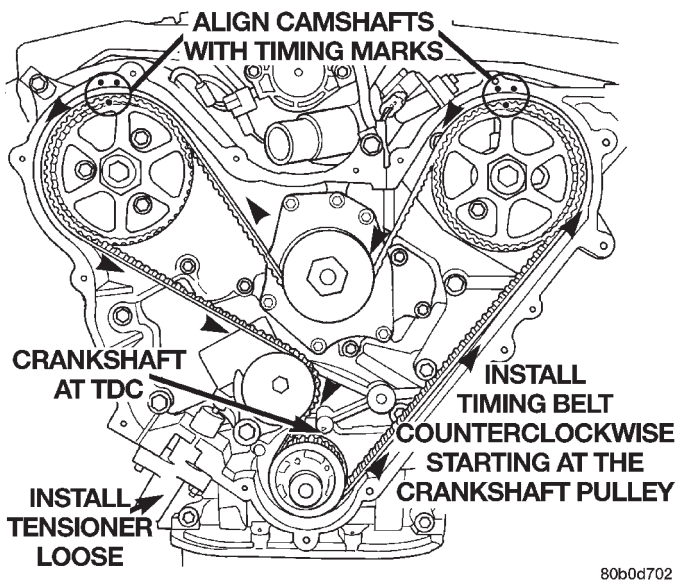

Fig. 71 Timing Belt Installation
(1) Align the crankshaft sprocket with the TDC mark on oil pump cover (Fig. 71).
(3) Install the timing belt starting at the crankshaft sprocket going in a counterclockwise direction (Fig. 71). Install the belt around the last sprocket. Maintain tension on the belt as it is positioned around the tensioner pulley.
(4) Holding the tensioner pulley against the belt, install the tensioner into the housing and tighten to 28 N·m (250 in. lbs.). Each camshaft sprockets mark should still fall between the cover marks.
(5) When tensioner is in place pull retaining pin to allow the tensioner to extend to the pulley bracket.
(6) Rotate crankshaft sprocket 2 revolutions and check the timing marks on the camshafts and crankshaft. The marks should line up within their respective locations (Fig. 71). If marks do not line up repeat procedure.